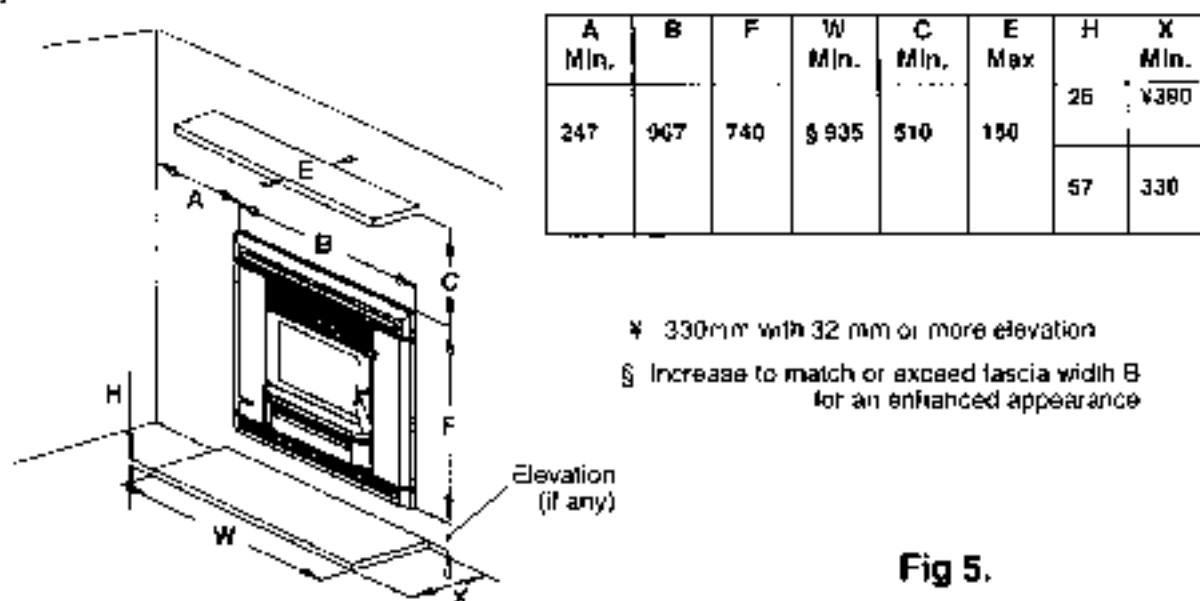

Fig 5.
17. An un-shielded mantel-shelf may be fitted according to the height and width restrictions shown in Fig. 5. Shelves lower or wider than shown require a metal under-shield (see the installation manual).